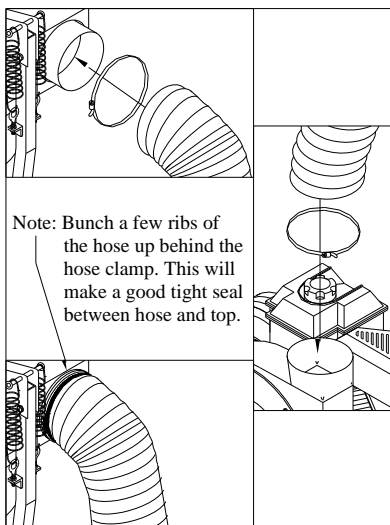

Fig. 8
6. Attach eyebolts (8) to brackets on vertical support by trapping brackets between 5/16" hexnut and 5/16" whizlock. Rotate eyebolts so that eyelets face from front to back. **Fig. 8**